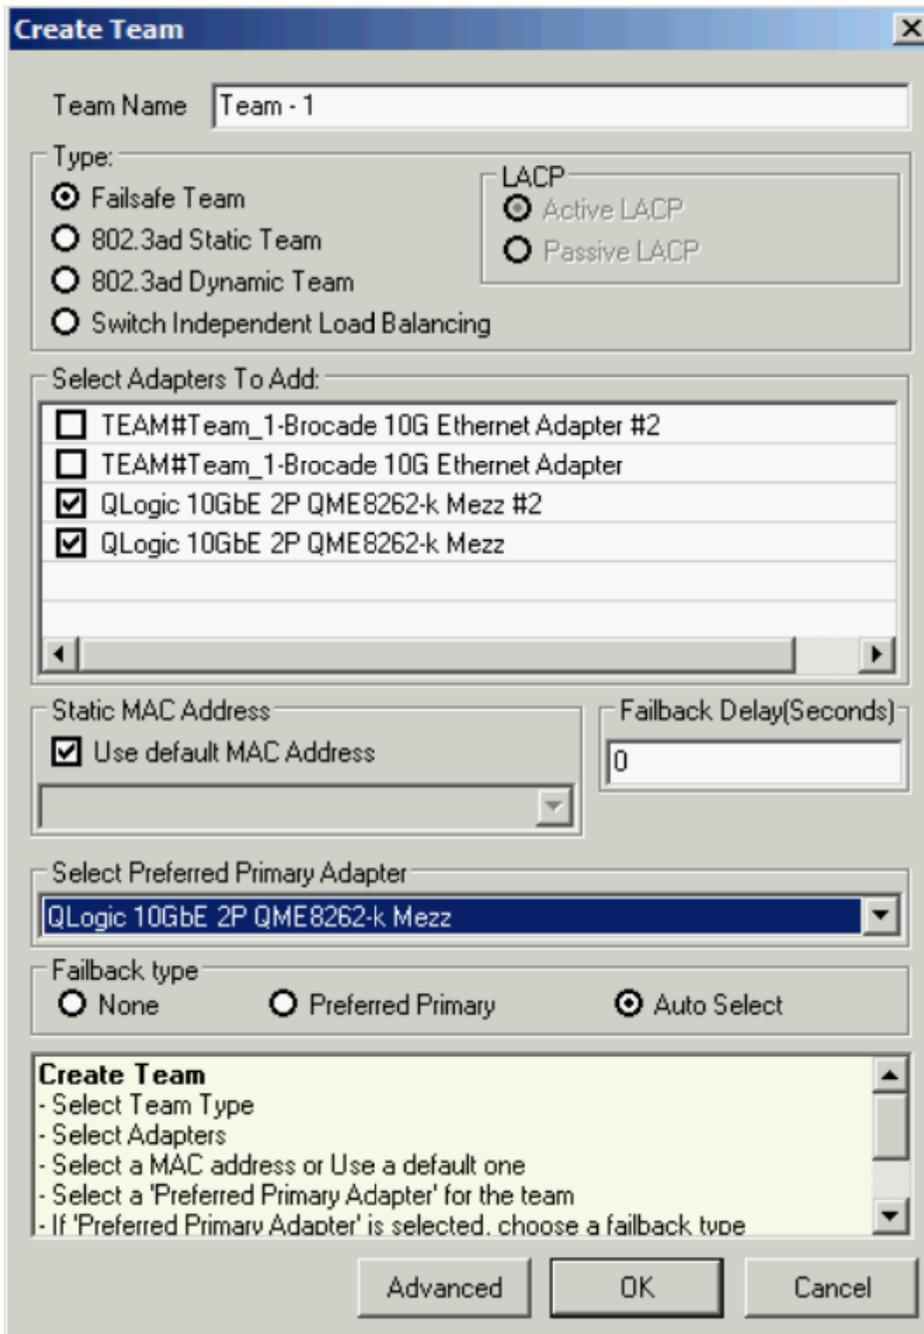

Figure 53 NIC teaming virtual NIC ports with Failsafe Team
3. Now right click on the **Teams** folder and click **Create Team**. Choose the type of NIC teaming you desire. In this example we will demonstrate with **Failsafe Team**. Next, select the ports to add to the NIC team and select the primary adapter. The rest of the settings we leave as default. Figure 53 displays the virtual port NIC team with two virtual NIC ports as members.